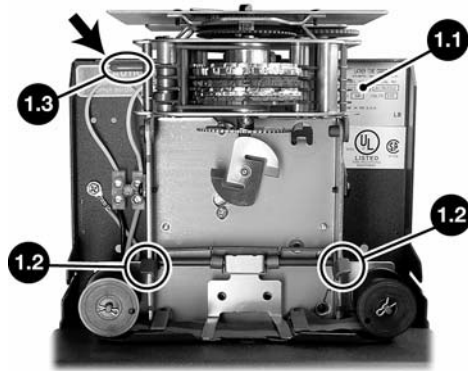

Figure 1
Example: Since the fourth digit in the model number 2104 is a "4", it will print with 00-59 minutes and 00-23 hours (see table above). The model number is located on the Label 1.1 positioned as shown in Figure 1.
4. Press either side of the **Type Section Headlock** - Figure 1, 1.2 and pull upward on the lower part of the Clock Face until the Type Section locks in the up position as shown in Figure 1. Note position of the Overthrow Lever and the Setting Wheel.
5. Press the red **Overthrow Lever** - Figure 1, 1.3 away from you until it clicks. This releases the wheels allowing them to turn.